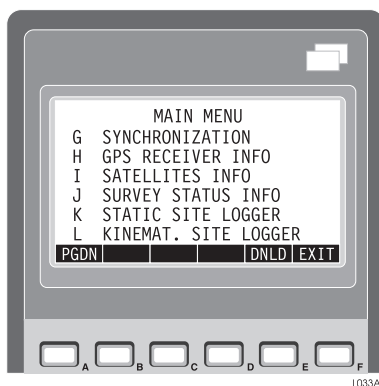
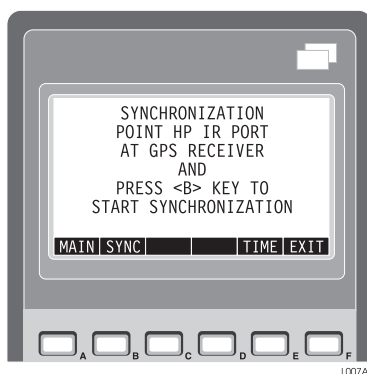

Figure 3.11: Page 1 of Main Menu
Figure 3.14: Synchronization Opening Screen
5. Press any key to go to the Main Menu, or wait a few seconds and the Main Menu appears (Figure 3.11).
1. With the Main Menu displayed (Figure 3.11), press the **G (SYNCHRONIZATION)** key to call the Synchronization opening screen (Figure 3.14).